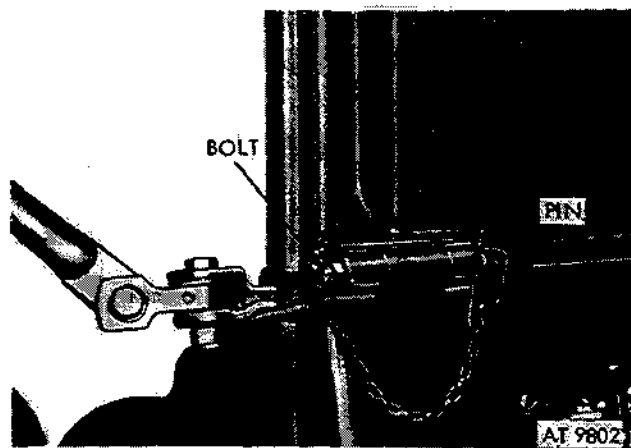
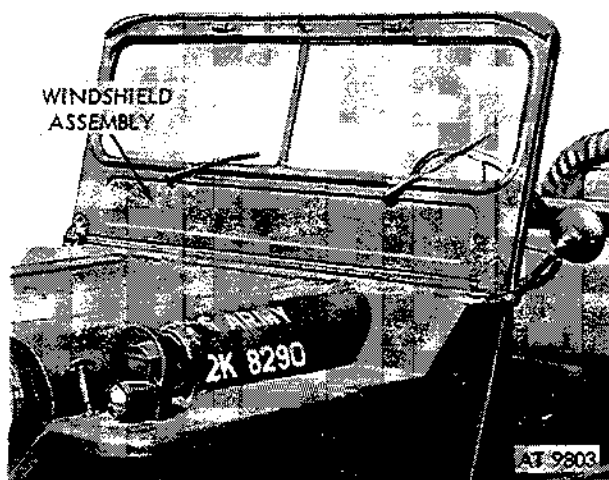

Figure 2-391. Remove pin and bolt from each side of windshield.
Figure 2-392. Remove windshield assembly.
(4) Remove pin and bolt from each side of windshield hinge (see fig. 2-391). Remove windshield assembly from vehicle (fig. 2-392).